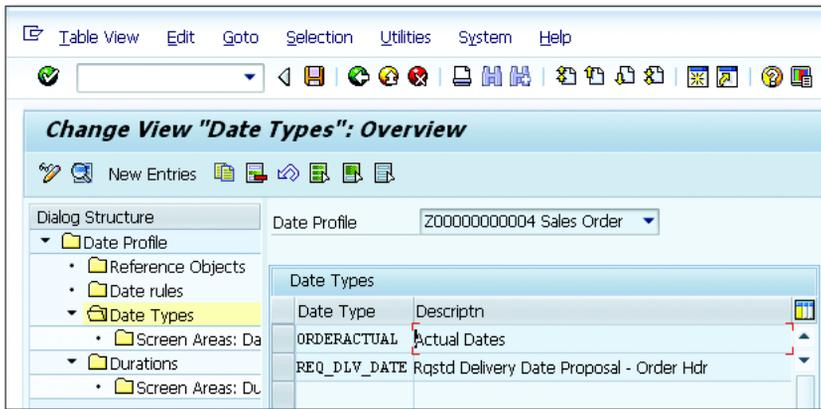

Figure 4.72 Date Types within the Date Profile
- Assign date types to the date profile by double-clicking on the DATE TYPES folder to view the details, and assign the date rule if required (see Figure 4.72).